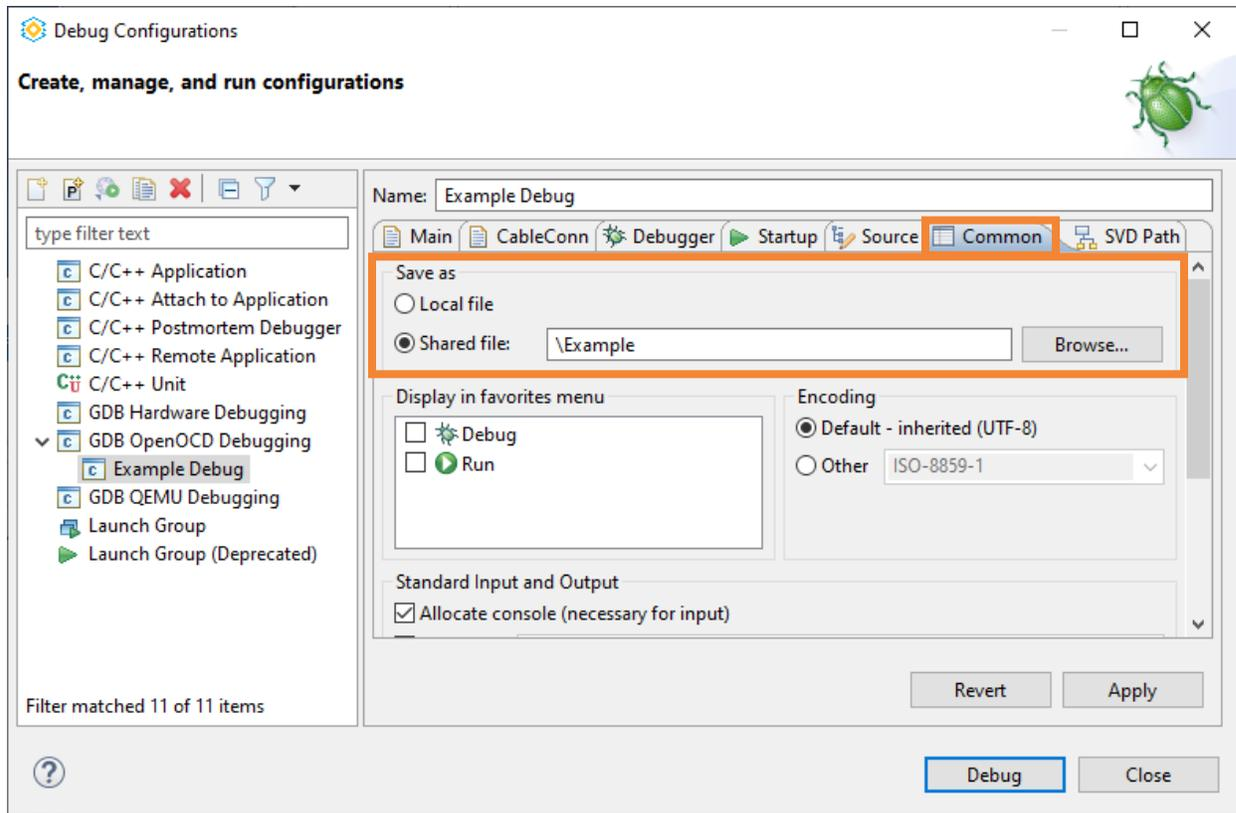

Figure 3.35. Common Tab of Debug Configurations
7. (Optional) Select the **Common** tab (Figure 3.35). The **Save as > Local file** option is selected by default. This causes the debug launch configuration to be saved into the workspace.
4. Click the **Debug** button (Figure 3.35).